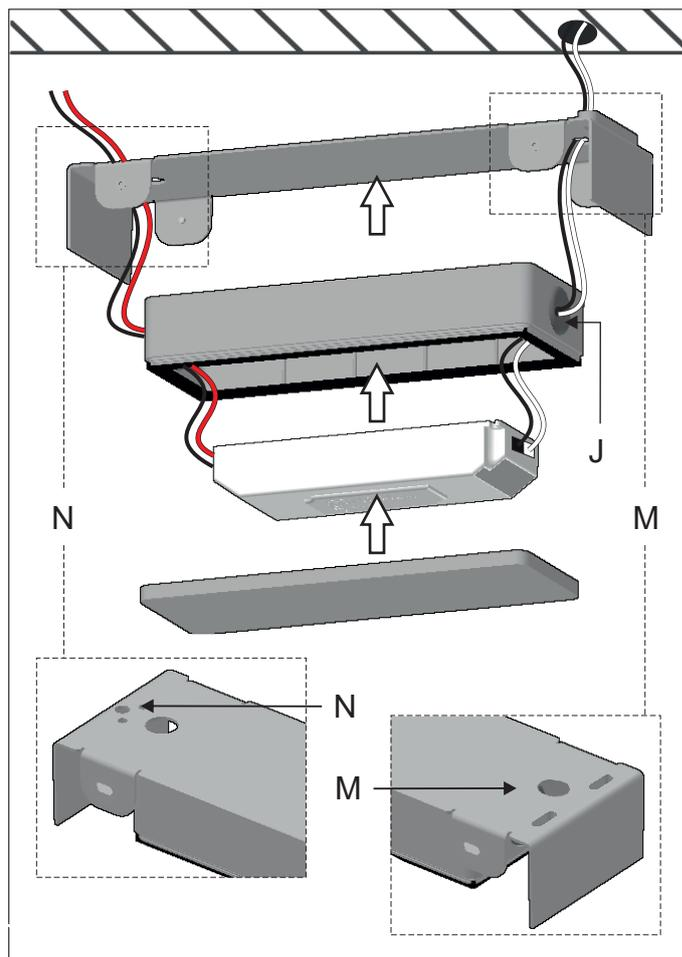

Figure 4C
Run the power cables through the central hole at the end (M) of the mounting bracket. Then run them into the hole made in the grommets (J). Make the electrical connections to the driver. Run the cables from the driver through the hole on the other side grommet and then through the hole (N). Figure 4C